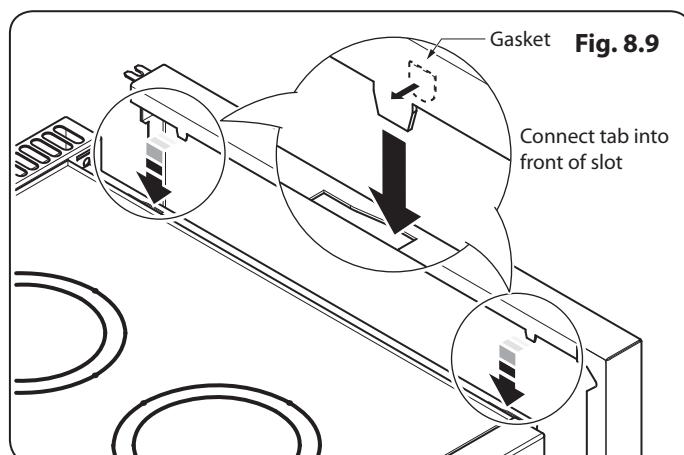

Fig. 8.9
2. Inside the top of the side panel top are two tabs. Connect these tabs into the cut-outs in the top edge of the cooker (**Fig. 8.9**).
5. **Note:** If a side panel is loose, fit one of the extra gaskets to the inner face of the front bracket locating tabs (**Fig. 8.9**) and refit.